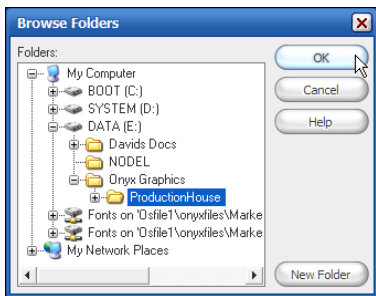

Figure 9—Browse Folders
2. From the *Base Folder* location of the *Properties* tab, click **Change**. This opens the *Browse Folders* dialog (see Figure 9).